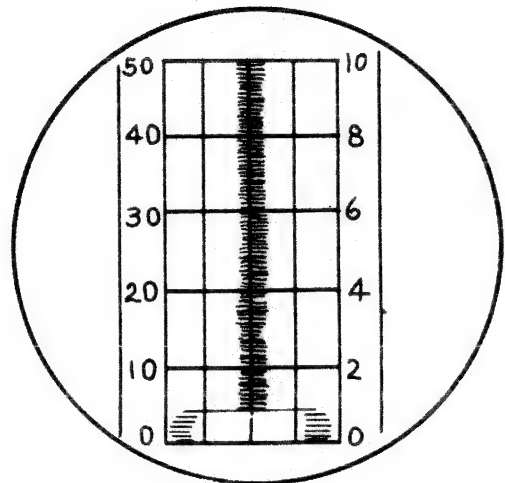

Figure 13 — Hash (Nautical Scale)
(6) With the "DI-IR" switch in the center position, throw the "ON-OFF" switch on Radio Control Box BC-1145-A and on Indicator BC-929-A to the "ON" position. A spot should appear on the indicator tube but there will be no sweep trace, except in early sets.
(7) Make sure that the blower is in operation.
(8) Allow the set to warm up for 3 minutes and then turn the "DI-IR" switch on Radio Control Box BC-1145-A to the "DI" (constant operation) position.
(9) Adjust the "FOCUS" and "INTENSITY" control on Indicator BC-929-A for a sharp and clear trace line as indicated in figure 13.
(10) With the "GAIN" control on the control box in the maximum clockwise position, the receiver is operating if a band of hash appears on the trace line of the indicator tube. (See fig. 13.) The transmitter is operating if a pulse appears at the bottom of the sweep. (See fig. 13.)